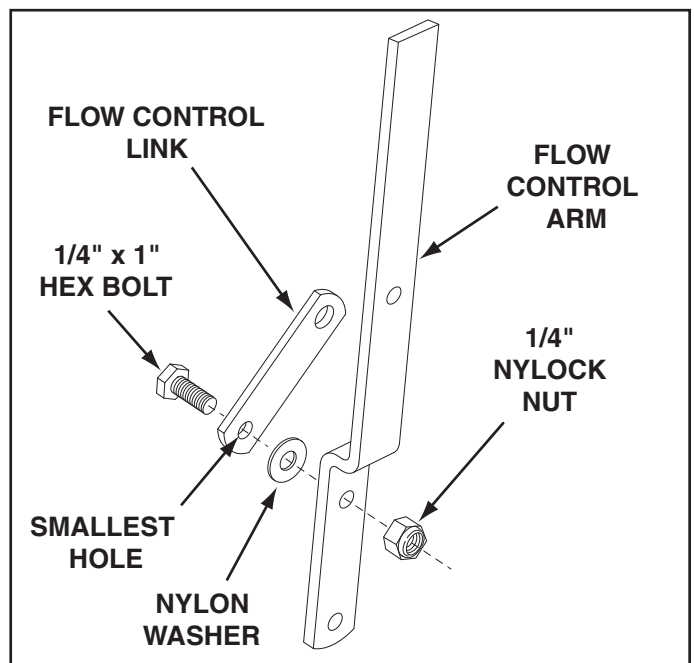

FIGURE 7
15. Assemble the flow control link (end with small hole) to the flow control arm using a 1/4" x 1" hex bolt, a nylon washer and a 1/4" nylock nut as shown in figure 7. **Tighten carefully.** The flow control link should not be loose but should pivot with no more than slight resistance.